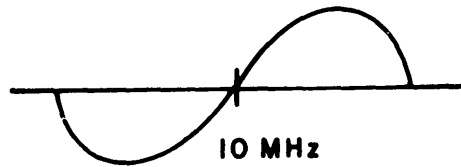

Figure 4-13. Typical Response, FM Discriminator Output
- (3) Adjust C12 and C17 for a typical "S" curve response (centered at 10 MHz). A typical response is shown in Figure 4-13.